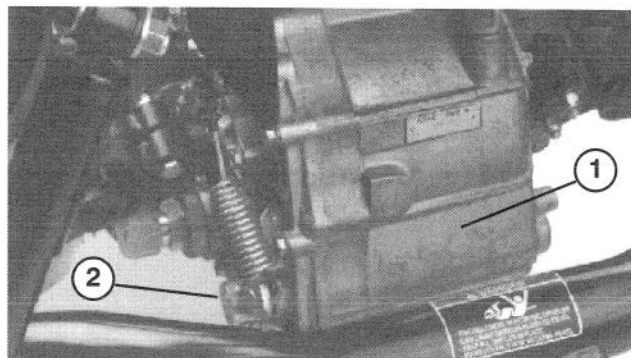

Figure 49
CHANGING TRANSAXLE / HYDRAULIC FLUID (Fig. 49)
2. Remove drain plug (Fig. 49) from side of reservoir and let hydraulic fluid flow into drain pan.